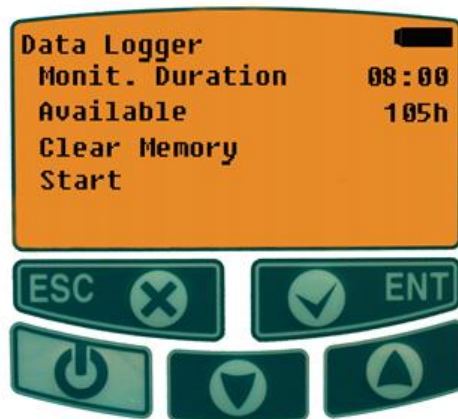

Fig. 2-11 – Initial screen of the Monitoring mode
In some dialogs, the *Monitoring* mode is designated as Data Logger (ref. Fig. 2-2, Fig. 2-11).
- Select the *Monitoring* mode with the \uparrow , \downarrow navigation buttons in the **Main menu** window (Fig. 2-2) and press the **Ent** button. The initial screen of the *Monitoring* mode will be displayed (Fig. 2-11) in which the **Monit. duration** and **Available** time items are for reference. The monitoring duration and the interval between two consecutive zero checks should be set in the **Parameters menu** (Fig. 2-4) beforehand. If the data logger memory is full (available time is 0), the message «**Not enough memory. Press Esc**» will be displayed.